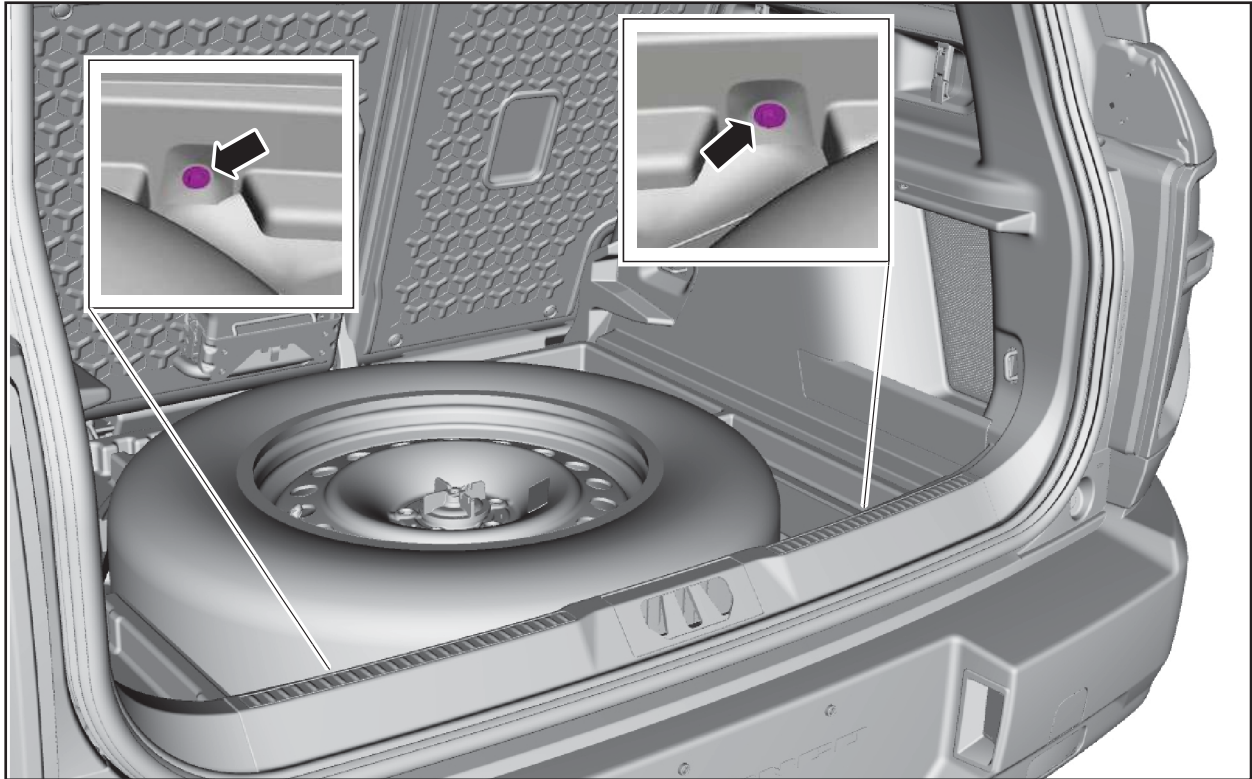

FIGURE 17
17. Remove the loadspace scuff plate trim panel bolts. See Figure 17.